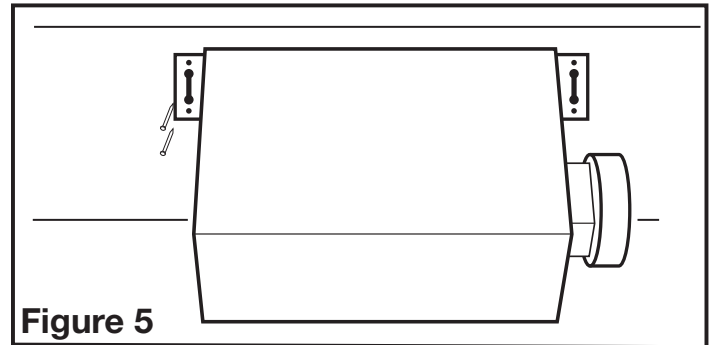

Figure 5
- 1a. **Mounting Tab Installation:** Line up housing so that it will be flush with the finished ceiling. Position the fan so that the tabs rest flat against the joist and secure with screws or nails (not provided) to ensure proper installation (Figure 5).
- 1a. **Mounting Tab Installation:** Position housing against the joist and trace an outline of the housing onto the ceiling material (Figure 7). Set housing aside and cut opening, being careful not to cut or damage any electrical or other hidden utilities. Place housing next to the joist and insure that it is flush with the finished ceiling. Secure with screws or nails (not provided) to the joists (Figure 5).